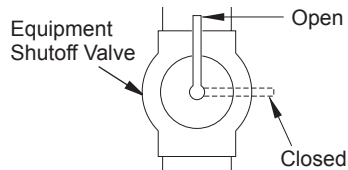

Figure 18 - Equipment Shutoff Valve
1. Close equipment shutoff valve (see Figure 18).
1. Open equipment shutoff valve (see Figure 18, page 15).
2. Close equipment shutoff valve (see Figure 18, page 15).